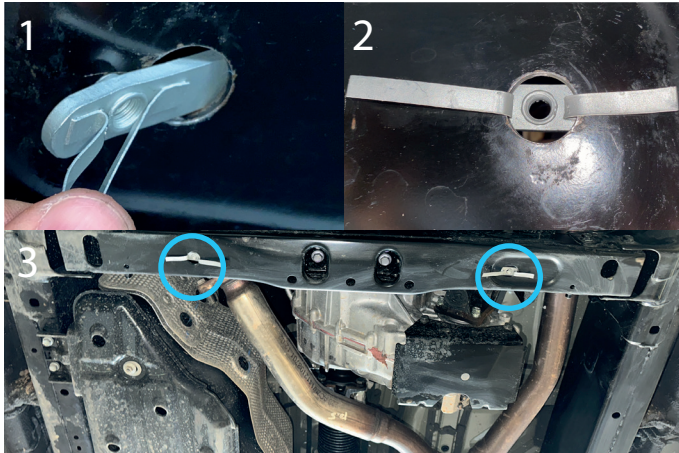

Fig. 1
1. Install M8x70 insert nuts (item D) as shown in fig.1.